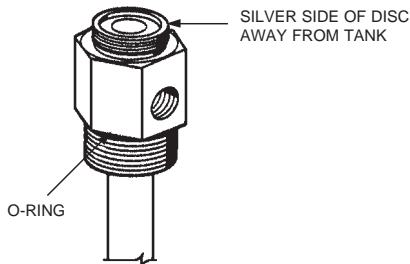

FIGURE 8-4
- 12. Examine threads on each tank adaptor and tank collar for nicks, burrs, or cross-threading. Clean and coat o-ring with a good grade of extreme temperature grease. See Figure 8-4. Remove 1/4 in. vent plug and clean and inspect for free movement and corrosion (if necessary, replace Vent Plug (Part No. 74247)). Reinstall vent plug. Make certain bursting disc is in place and silver side is away from tank. Clean seating surface and return adaptor/tube assembly to each tank. Tighten securely.